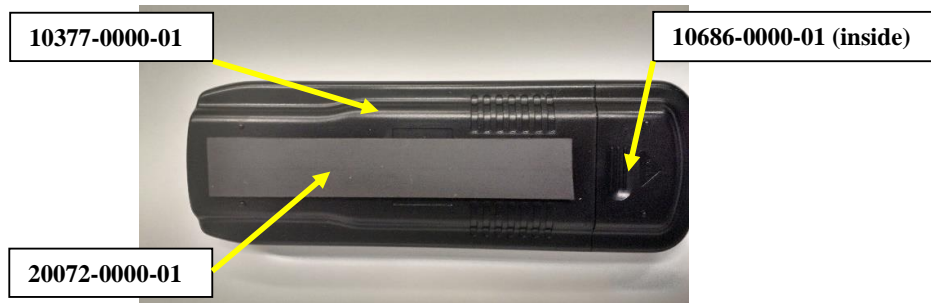

Figure 23
- 1.5.1. Install the (2) 1.5V AAA Batteries (10686-0000-01) into the Remote Control Transmitter (10377-0000-01) as shown in Figure 23.
- 1.5.2. Secure the 1/8" Thick Rubber Magnet (20072-0000-01) material to the bottom of the Remote Control Transmitter per SOP-30-028 as shown in Figure 23 using CA4 or equivalent.